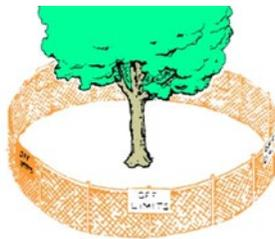

Figure 2. Set up signs and fences around trees to be protected from construction.
- Inside the PRZ there can be NO grading, trenching, parking, stock piling of building materials or dumping of waste products. **[Figure 2]**